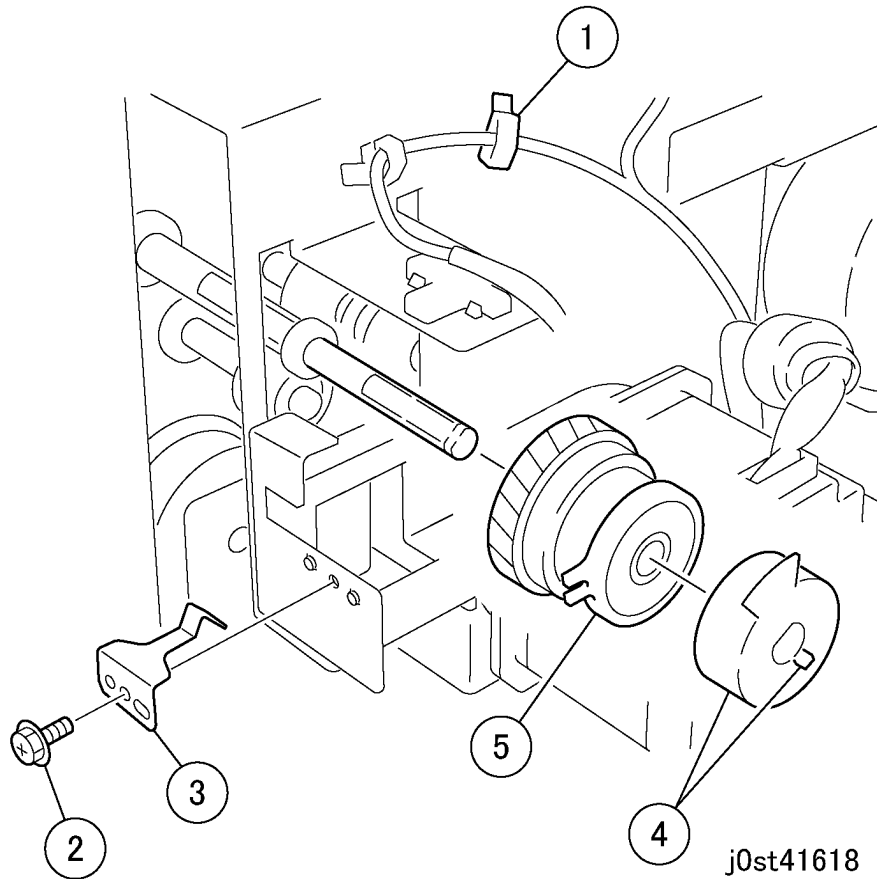

Figure 7 Removing the Set Clamp clutch
8. Remove the Set clamp clutch. (Figure 7)